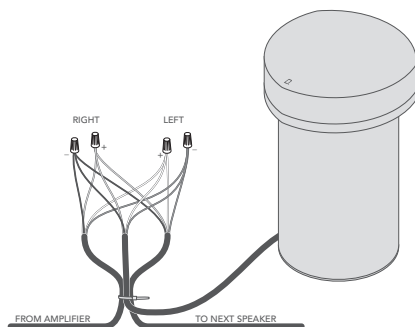

Figure 9
1. As with the satellite speaker installation, create a loop approximately 10" in length, pulling the wire from the spool side. Leave 14-16" of excess wire so that the wire doesn't kink or pull taut when covering the wire with dirt in the trench. Use a wire tie to hold the wire loop in place and provide strain relief (see Figure 9).